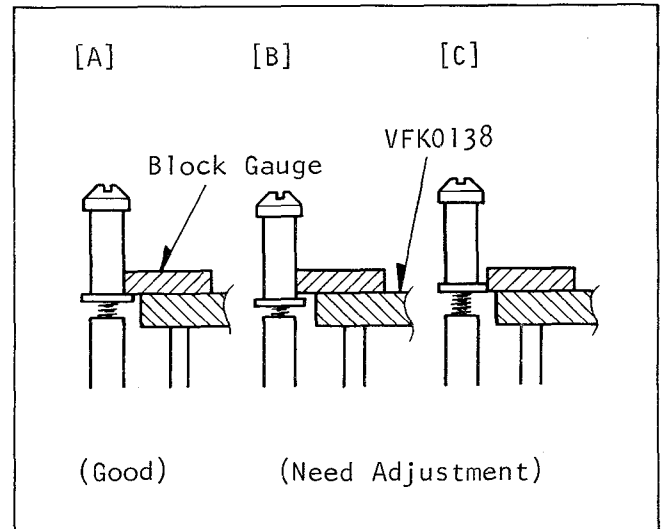

Fig.M78. Post Height Adjustment-(2)
4. Loosen the locking hex. screws of posts (P2 and P3), then turn the top of the post counter clockwise with post adjustment screwdriver to obtain the condition (C) shown in Fig. M78.